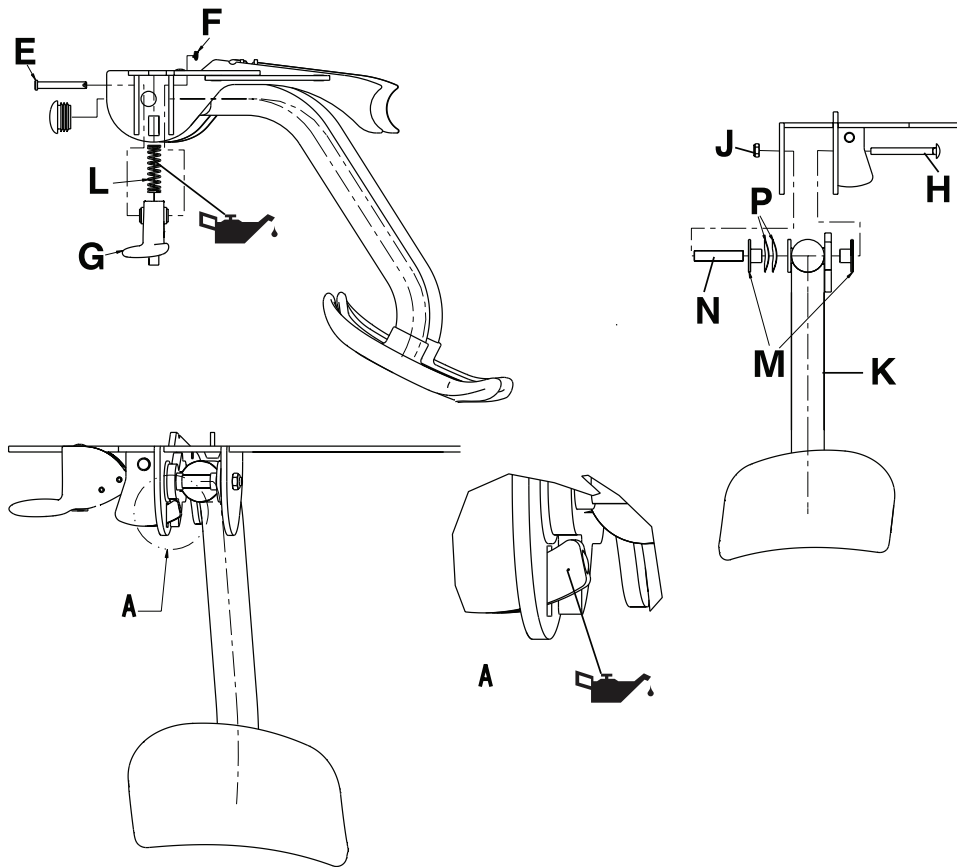

Figure 37: Leg rest components
6. Using needle nose pliers, remove rue ring cotter (F) and the clevis pin (E) that secure the leg rest latch assemblies (G) to both sides of the leg rest mounting plate weldment (D). Remove the leg rest latch assemblies (G) and compression springs (L) on both sides of the leg rest mounting plate weldment (D) (Figure 37 on page 56). Save the leg rest latch assemblies, springs, rue ring cotters, and clevis pins.
7. Using a 7/16" open end wrench, remove the nylock hex nut (J) and the bolt (H) that secure the leg rest assembly (K) to the leg rest mounting plate weldment (Figure 37 on page 56).
8. Remove the two washers (P), two bushings (M), and the leg rest pivot spacer (N) as you remove the leg rest assembly (Figure 37 on page 56). Save all parts.
- a. Using Syntech grease, lubricate the compression spring (L) and the latch tip (Figure 37 on page 56), if necessary.
- b. Install the washers (P) on the bushing (M) before putting them on the leg rest assembly.
2. Using a 7/16" combination wrench, tighten or loosen the nylock hex nut (J) in quarter turn increments. (Figure 37 on page 56).